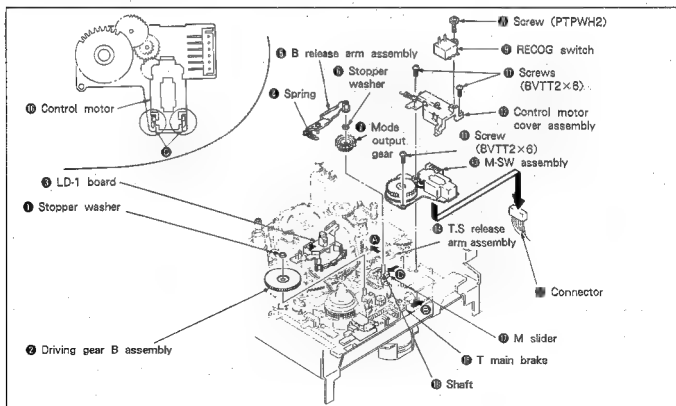

Fig. 7-38.
1. Removal (See Fig. 7-38.)
Mounting (See Fig. 7-38.)